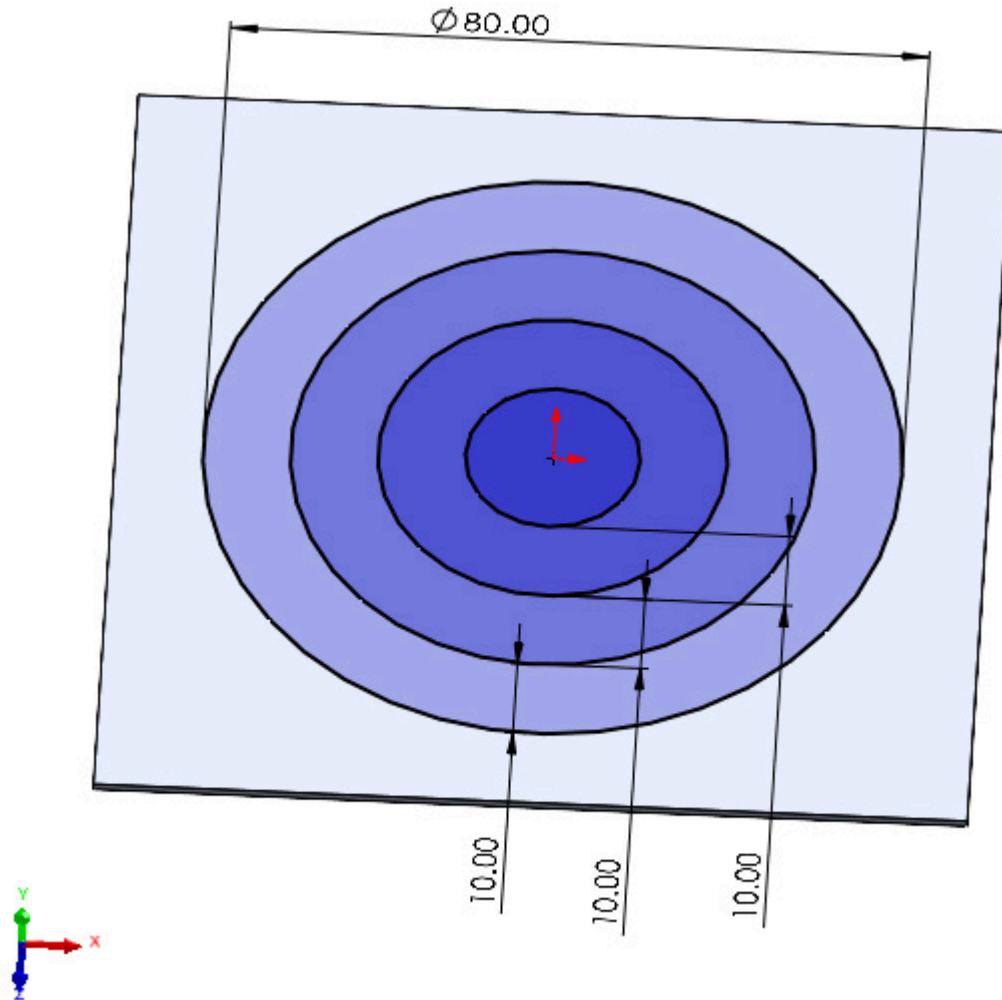

Figure 6.10: Offsetting two more circles so that we have four concentric circles in total
5. Use the **Offset Entities** tool twice more to add two more circles, each **10mm** smaller than the previous one (*Figure 6.10*):